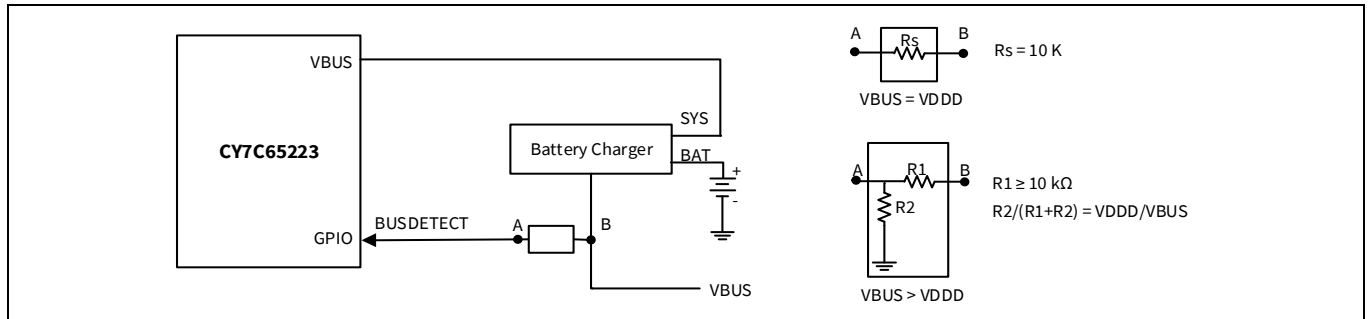
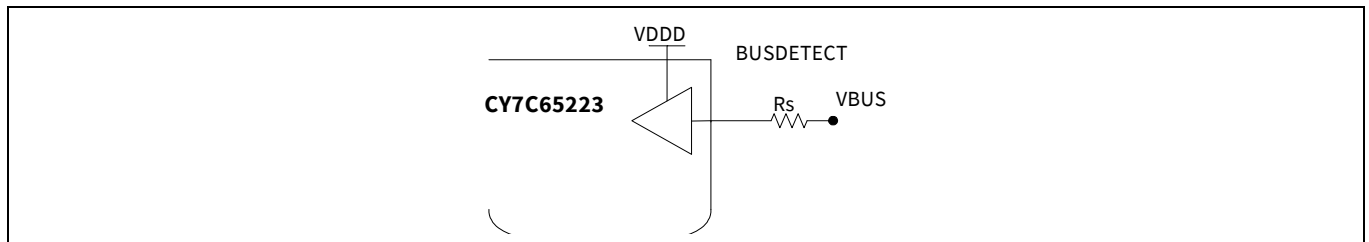
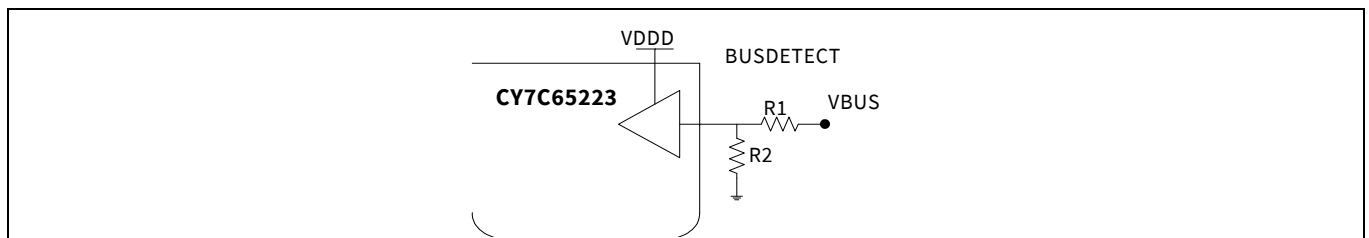

**Figure 10** 9-V tolerant
**Figure 11** GPIO VBUS detection, VBUS = VDD
**Figure 12** GPIO VBUS detection, VBUS > VDD
| BUSDETECT                 | VBUS detection. Connect the VBUS to this pin through a resistor network for VBUS detection when using the BCD feature (refer to <a href="#">Figure 10</a> , <a href="#">Figure 11</a> , and <a href="#">Figure 12</a> ).                                                                                                             |
8. Refer Figure 10, Figure 11, Figure 12 and the corresponding descriptions for handling VBUS Over Voltage Protection (OVP).
In a battery charger system, a 9-V spike on the VBUS is possible. The CY7C65223 VBUS pin is intolerant to voltage above 6 V. In the absence of over-voltage protection (OVP) on the VBUS line, the VBUS should be connected to BUSDETECT (GPIO configured) using the resistive network and the output of the battery charger to the VBUS pin of CY7C65223, as shown in **Figure 10**.
When the VBUS and VDD are at the same voltage potential, the VBUS can be connected to the GPIO using a series resistor ( $R_s$ ) (see **Figure 11**). If there is a charger failure and the VBUS becomes 9 V, then the 10-k $\Omega$  resistor plays two roles. It reduces the amount of current flowing into the forward-biased diodes in the GPIO, and it reduces the voltage seen on the pad.
When the VBUS > VDD, a resistor voltage divider is required to reduce the voltage from the VBUS down to VDD for the GPIO sensing the VBUS voltage (see **Figure 12**). The resistors should be sized as follows: